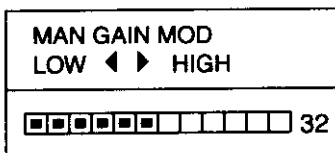

Figure 1-6 Dialogue for manual adjustment of gain
2. Press the [GAIN] key to display the screen shown in Figure 1-6.